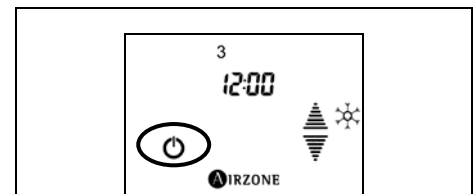

Fig. 23 - Press ON/OFF icon
- 1) If the zone is not in the OFF position, turn it to OFF by pressing once on the On/Off icon (Fig. 23).